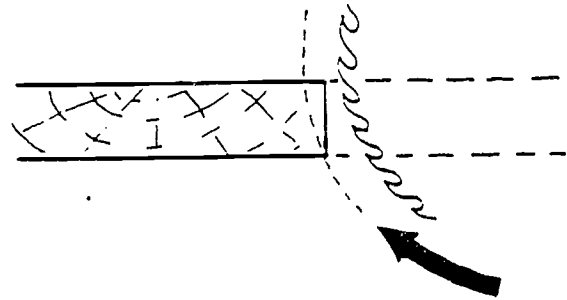

Fig. 41-3. The teeth of a portable electric hand-saw cut upward.
6. Press the trigger switch. Let the motor run freely a few seconds before you start to cut. Note that the teeth cut upward into the board (Fig. 41-3).